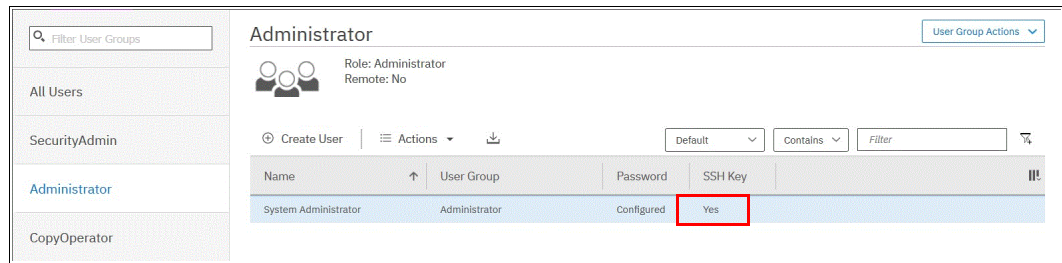

Figure C-7 Key successfully imported
5. Check in the GUI to ensure that the SSH key is imported successfully (see Figure C-7).